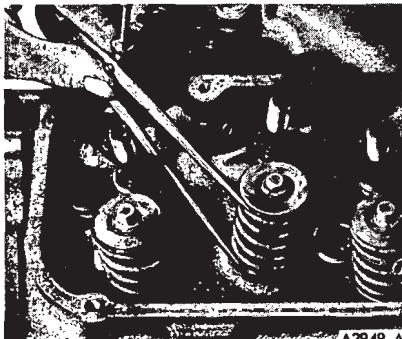

FIG. 14—Measuring Valve Spring Assembled Height
3. With dividers, measure assembled height of valve spring from surface of spring pad on cylinder head to underside of spring retainer (Fig. 14). Check dividers with accurate scale. If assembled height exceeds specifications, install spacer(s) below spring to reduce height to recom-